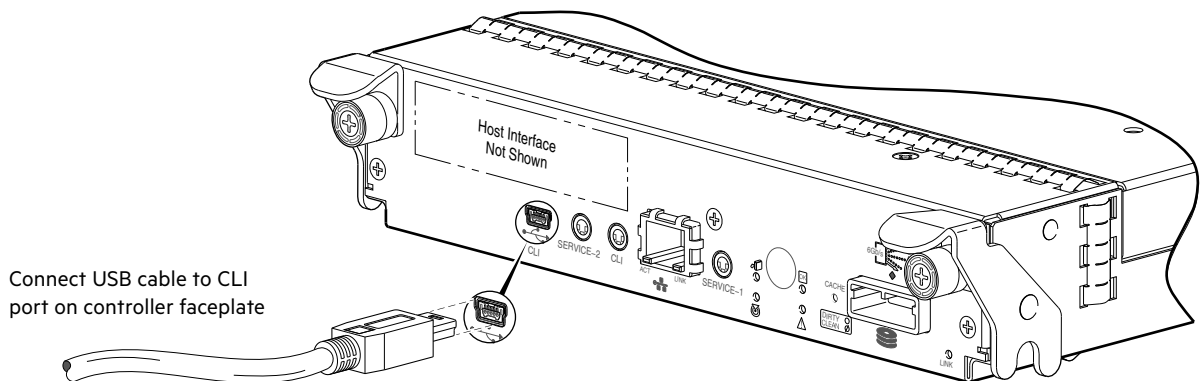

Figure 25 Connecting a USB cable to the CLI port
Once attached to the controller module as shown in Figure 25 \(page 41\), the management computer should detect a new USB device. Using the Emulated Serial Port interface, the controller presents a single serial port using a *vendor ID* and *product ID*. Effective presentation of the emulated serial port assumes the management controller previously had a terminal emulator installed (see Table 3). MSA 2050 controllers support the following applications to facilitate connection.
2. Use the provided USB cable to connect controller A to a USB port on a host computer. The USB mini 5 male connector plugs into the CLI port as shown in Figure 25 (generic controller module is shown).